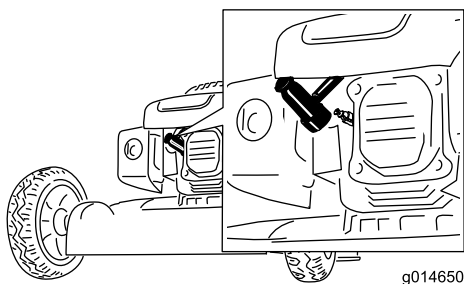

Figure 23
2. Disconnect the spark-plug wire from the spark plug (Figure 23) before performing any maintenance procedure.